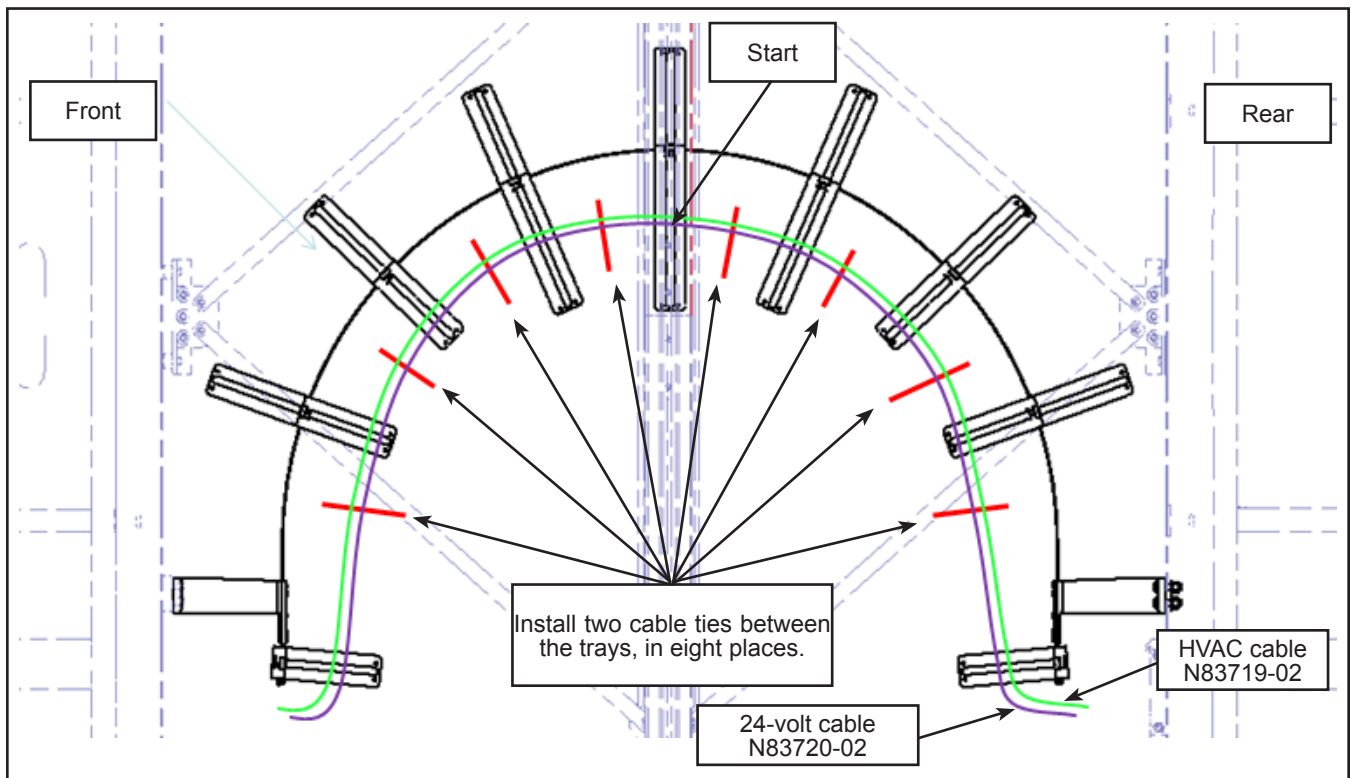

Figure 4 - Install the New Cables
- Position the new HVAC cable N83719-02 and 24-volt cable N83720-02 per Figures 4 and 5. Add cable ties to keep the cables in place but do not tighten them yet. Using the middle of the EGS system as the starting point, route the 2 cables evenly towards the front and the rear.